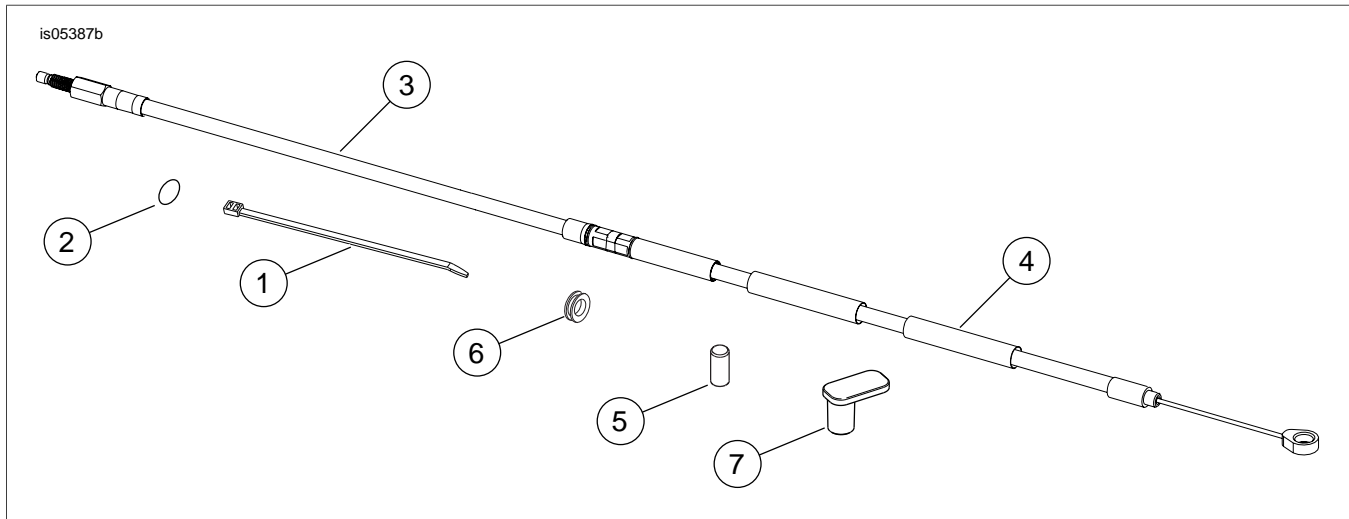

Figure 11. Service Parts: Clutch Cable Kits
- See Figure 11. Finish the installation of the clutch cable following the instructions in the appropriate service manual EXCEPT:
- See Figure 11. Discard the stock P-clamp on the upper fork bracket. Replace with P-clamp (8).
See Figure 11. Double-loop cable strap(s) (1) are included in the kit to hold the clutch cable adjuster away from the frame and secure it to the vehicle.